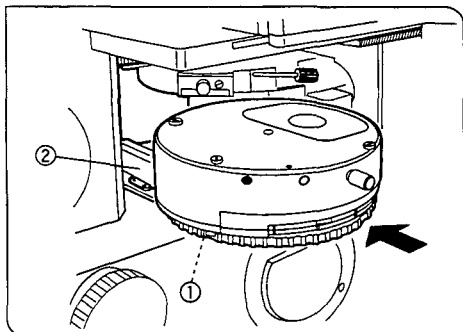

Fig. 4
2 Mounting the Fluorescence Mirror Cube Housing (IX-RFAC) (Fig. 4)
1. Using the Allen screwdriver, loosen the clamping screw ① of the microscope's mirror cube housing dovetail. Remove the housing dummy.
2. Positioning the mirror cube housing dovetail ② as shown in Fig. 4, insert the mirror cube housing as far as it will go into the microscope's mirror cube housing compartment.
3. Using the Allen screwdriver, firmly tighten the clamping screw ① of the microscope's mirror cube housing dovetail.